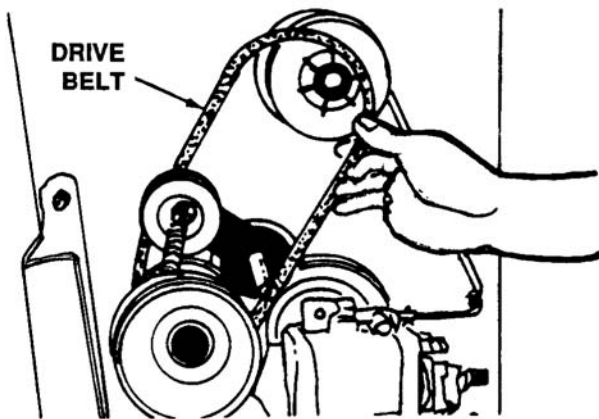

Figure 4-24. Removing Drive V-Belt
10. Remove and replace the V-belt. See Figure 4-24.